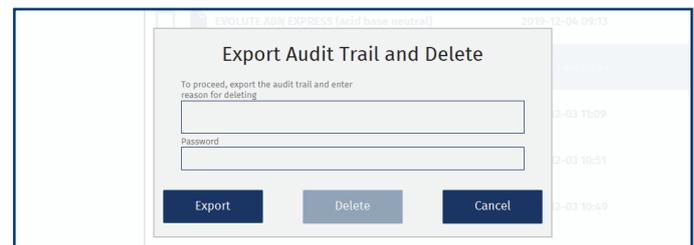

Figure 82. The Export Audit Trail and Delete dialog.
1. Select the report and press **Delete**. The **Export Audit Trail and Delete** dialog opens; see Figure 82.